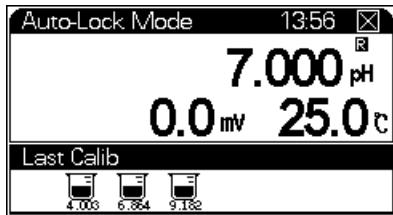

Figure 26 Enter Auto-lock Mode
- 4 Press [**Measure**] to begin measurement. **Figure 26**. The upper area of the screen shows the current measuring mode and system time. The central area of the screen shows present pH, potential, and temperature. The pH electrode's ceramic liquid junction should be immersed in solution, otherwise may cause unstable reading.